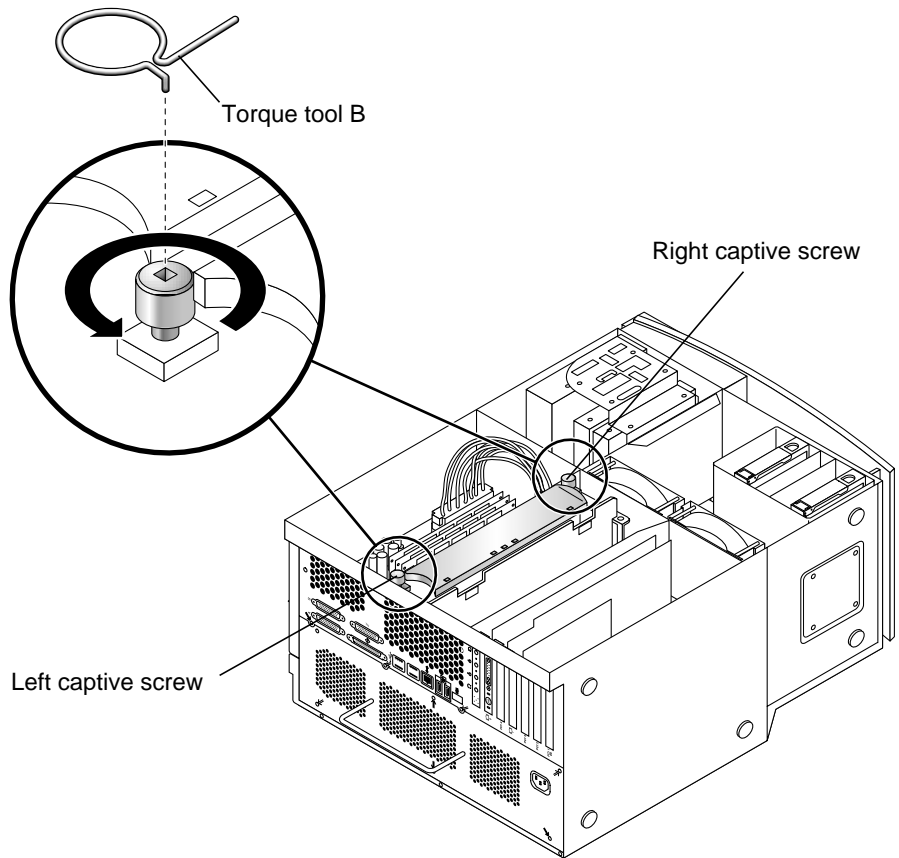

FIGURE 8-7 Using Torque Tool B to Remove a CPU Module
- b. Alternately rotate the left and right captive screws one turn counterclockwise until the screws are free of the threaded inserts (see FIGURE 8-7).**